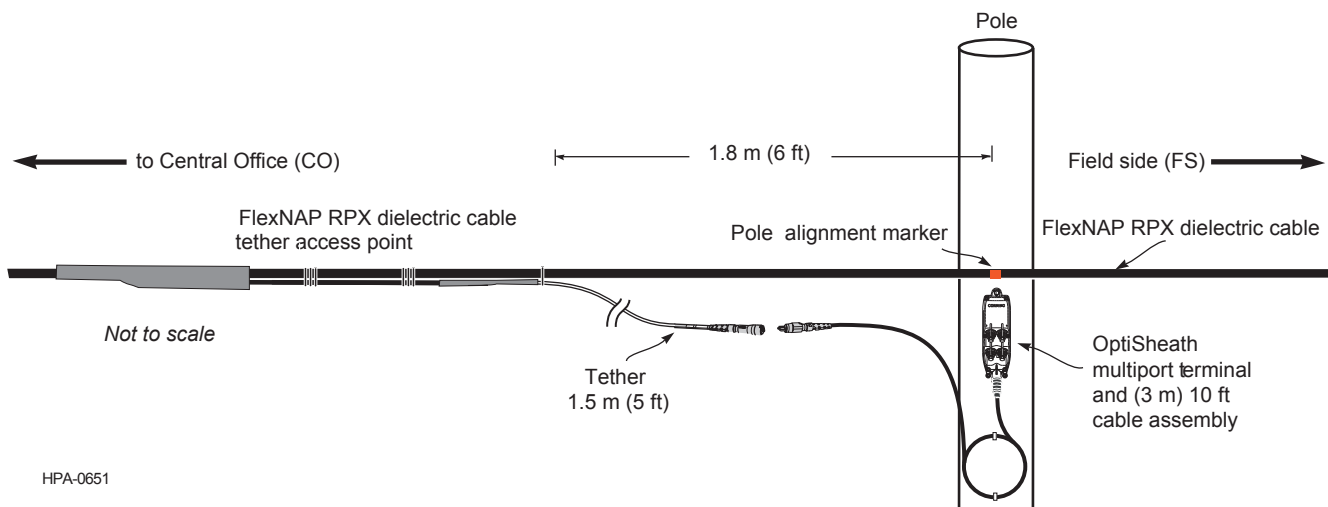

Figure 5
Regardless of the installation type, there will be orange pole alignment markers (PAMs) used for proper positioning of the tether access point (TAP) tethers and the cable itself. When the PAMs are properly positioned and assuming the cable pull is towards the central office (CO) from the field side (FS), the TAP itself will hang 1.8 m (6 ft) from the pole towards the CO side. This allows the 1.5 m (5-ft) tether (aerial tether length) at each TAP to reach the pole for connection of the multiport terminal (Figure 5).